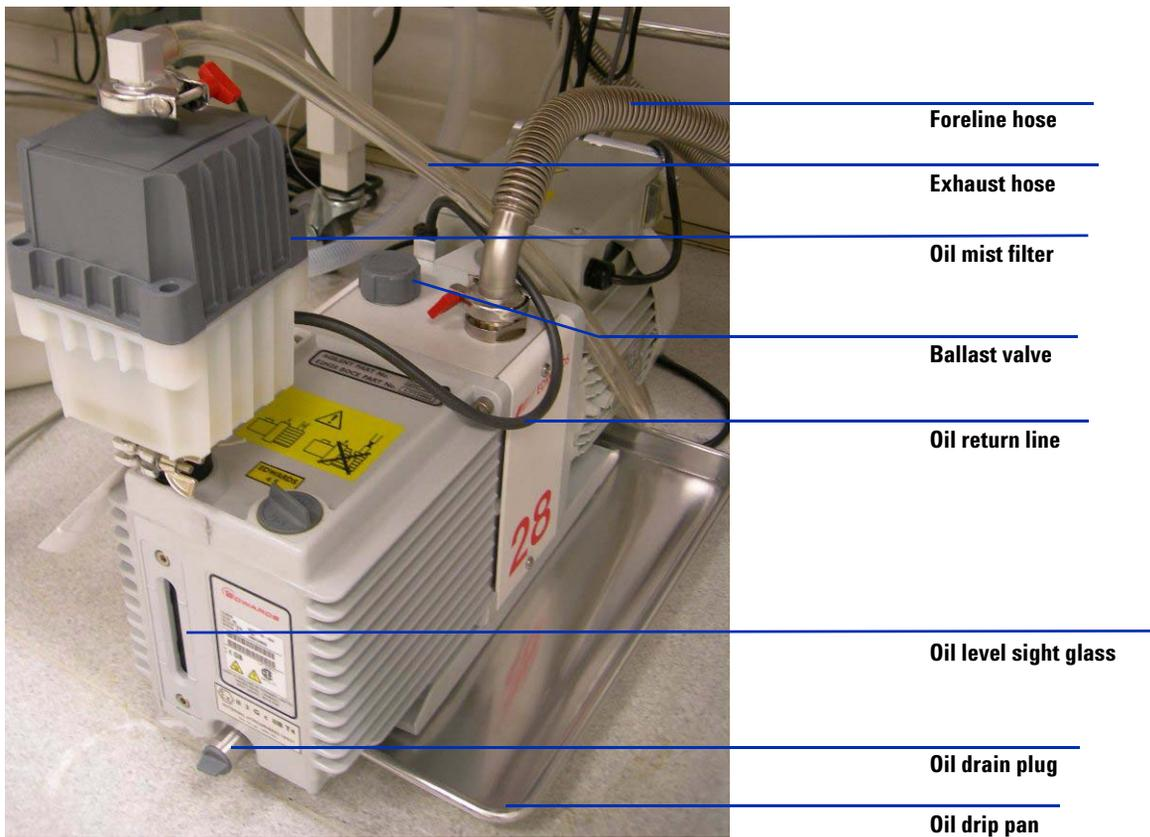

Figure 65 Rough pump.
- 3 Remove the fill cap on the rough pump (see Figure 65).
- 4 Add new pump fluid until the fluid level is near, but not over the maximum mark beside the fluid level window (see Figure 65).
- 3 Place a container under the drain plug of the rough pump (see Figure 65 on page 103).
- 4 Remove first the fill cap (see Figure 65 on page 103), then open the drain plug.
- 6 Pour in new pump fluid until the fluid level is near, but not above the maximum mark beside the fluid level window (see Figure 65 on page 103).